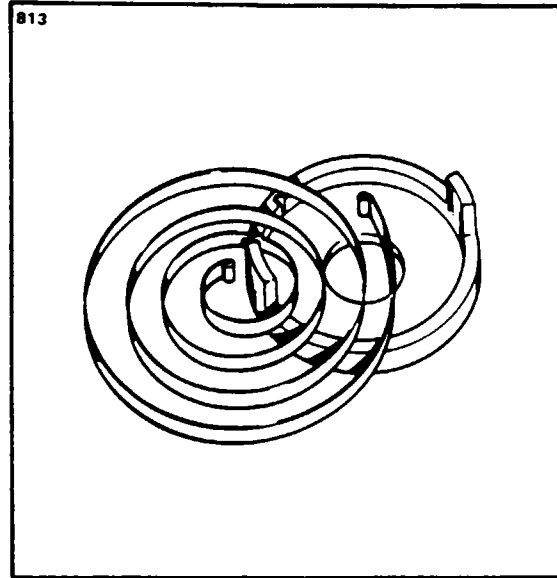

Figure 8-25. Orientation of Spring in Coupling Body
d. Orient the spring with the body for correct rotation. On clockwise couplings, the spring must coil in a clockwise direction from the outside toward the center when viewed from the spring recess side of the body. (Refer to Figure 8-25.) Insert eye of outer end of spring into hole drilled in inner rim of body.